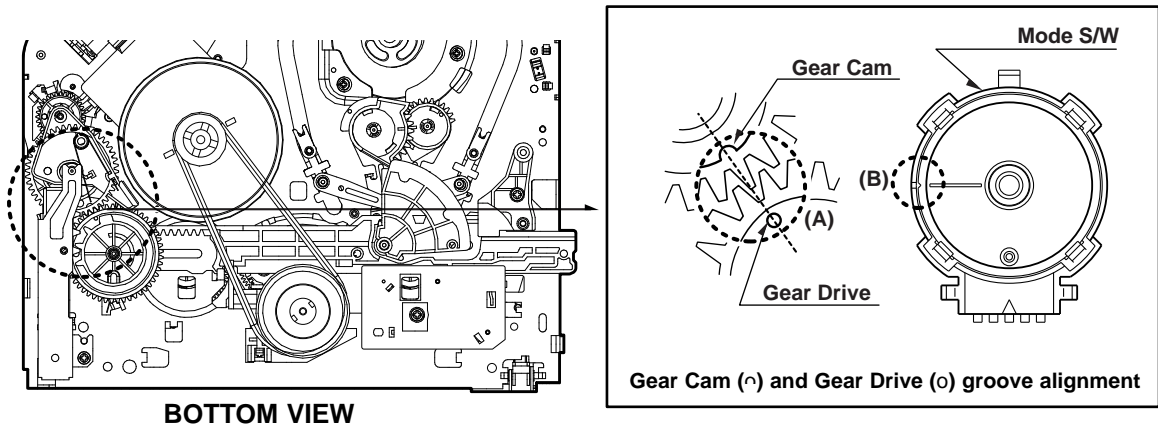

Fig. C-1
- 5) Confirm if the Mode S/W on the Main P.C.Board is aligned as below Fig. C-1(B).